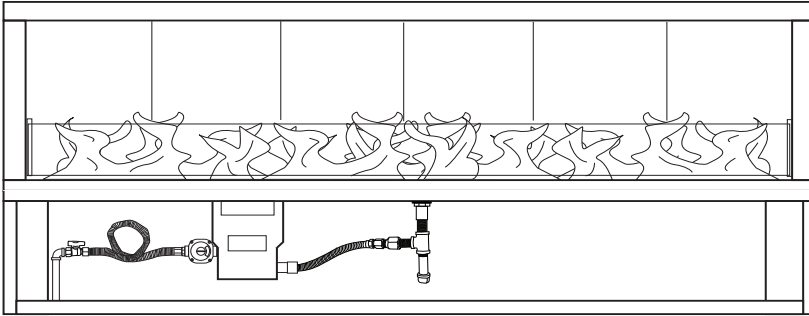

Fig. 35 Proper flame height.
Proper flame height (Fig. 35) should be at the top edge of glass windshield (peaking above at times) while on HI setting. **Note:** Glass windshield is 7-inches tall. The LO setting will be at least half of the height of HI or maybe lower. There can be a variance in flame height between Natural Gas and Liquid Propane (LP) Gas models.